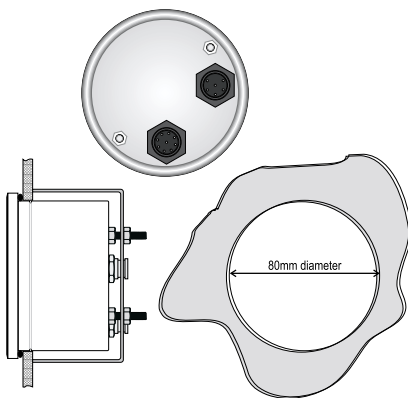

Figure 4: Display mounting
3. Reach behind the instrument panel and position the securing bracket as shown in Figure 4. Tighten the lock nuts to fix the ST700 Dash Display System display into position.